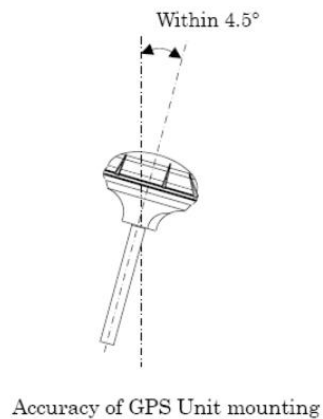

Figure 3.9-3 GPS max degrees
- ◆ Note1: Inclination of GPS Unit against the vertical direction shall be 4.5 degrees max. as shown in Figure 3.9-3